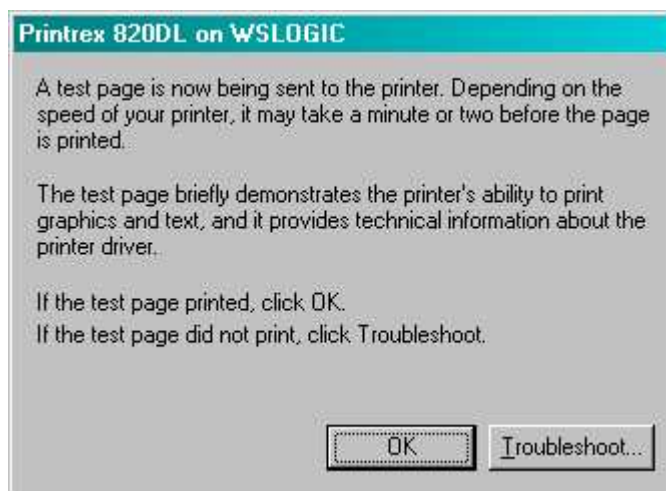

Figure 15
15. Files will then be copied from the floppy disk, and, if the printer is connected, with power on, paper loaded, and on line, the test page should begin to print within 5 – 20 seconds, depending on system resources. A small dialog (Figure 15) will then appear:
- If these are all OK, click Troubleshoot... in the dialog of Figure 15.